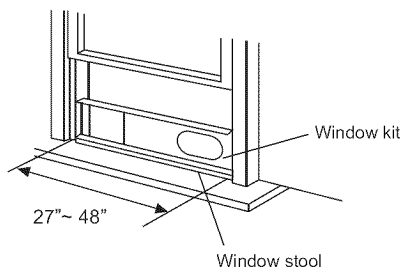

Fig.11
2. Attach the window slider kit to the window stool. Adjust the length of the window slider kit according to the width of window, shorten the adjustable window kit if the width of window is less than 27 inches. Open the window sash and place the window slider kit on the window stool. Shown as in Fig.11.